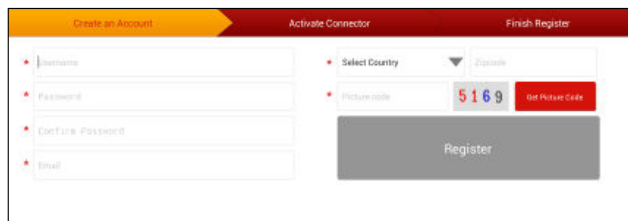

Fig. 5-6
1. If you are a new user, tap “New Register” to enter registration page. See Fig. 5-6.
In Fig. 5-6, fill in the information in each field (Items with \* must be filled). After inputting, tap “Register”, a screen similar to the following will appear: